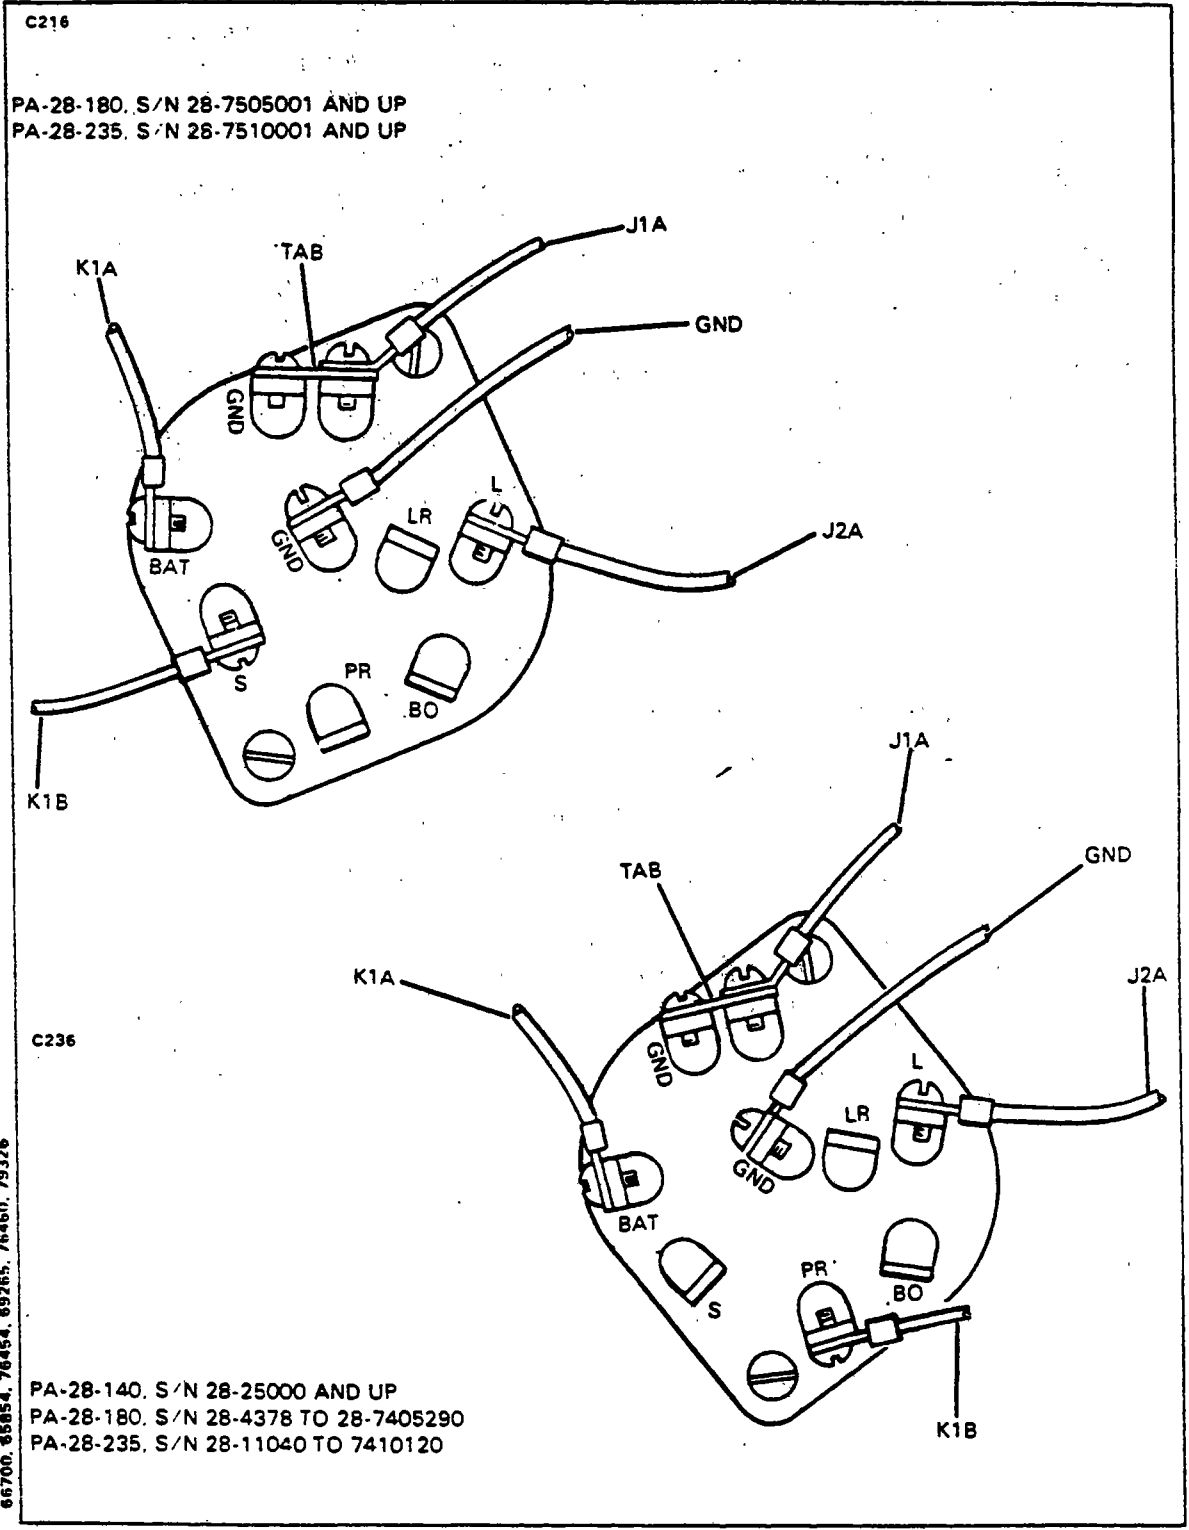

Figure 8-21. Ignition Switch Wiring Positions
#### 8-49. INSTALLATION OF IGNITION SWITCH. (Refer to Figure 8-21.)
- a. Attach wires to the switch as shown in Figure 8-21.